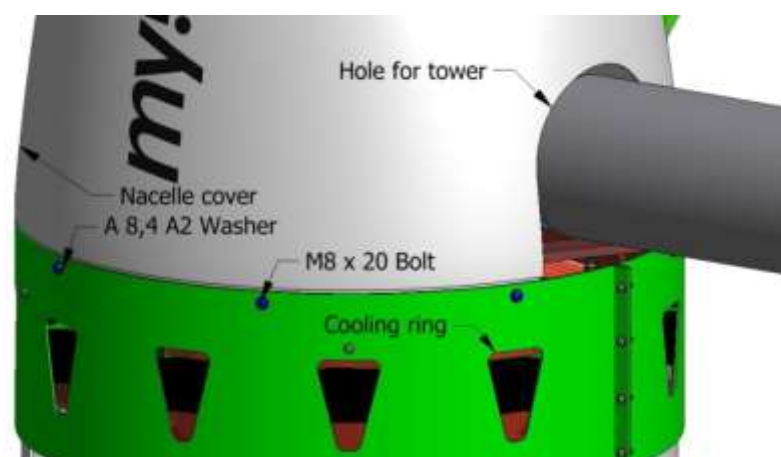

Figure 21– Placing the nacelle cover
1. Take the my!Wind nacelle cover and place it on top and inside of the cooling ring in a way that the tower passes through the hole for tower (see Figure 21). Align the eight fixing holes in the cover and in the cooling ring.